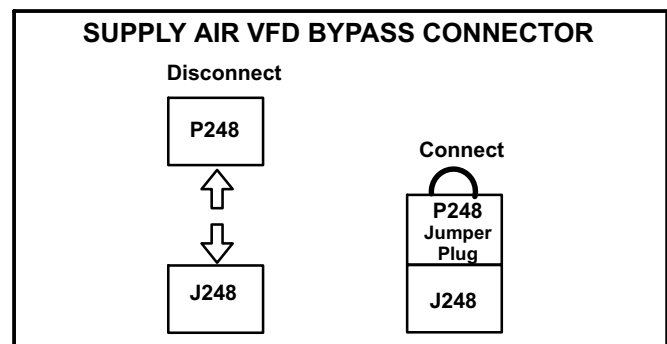

FIGURE 33
- 4- Disconnect J248 from P248 and connect connect P248 jumper plug to J248. P248 jumper plug is attached to the J248 wire harness near the J248 jack connector. See figure 33.